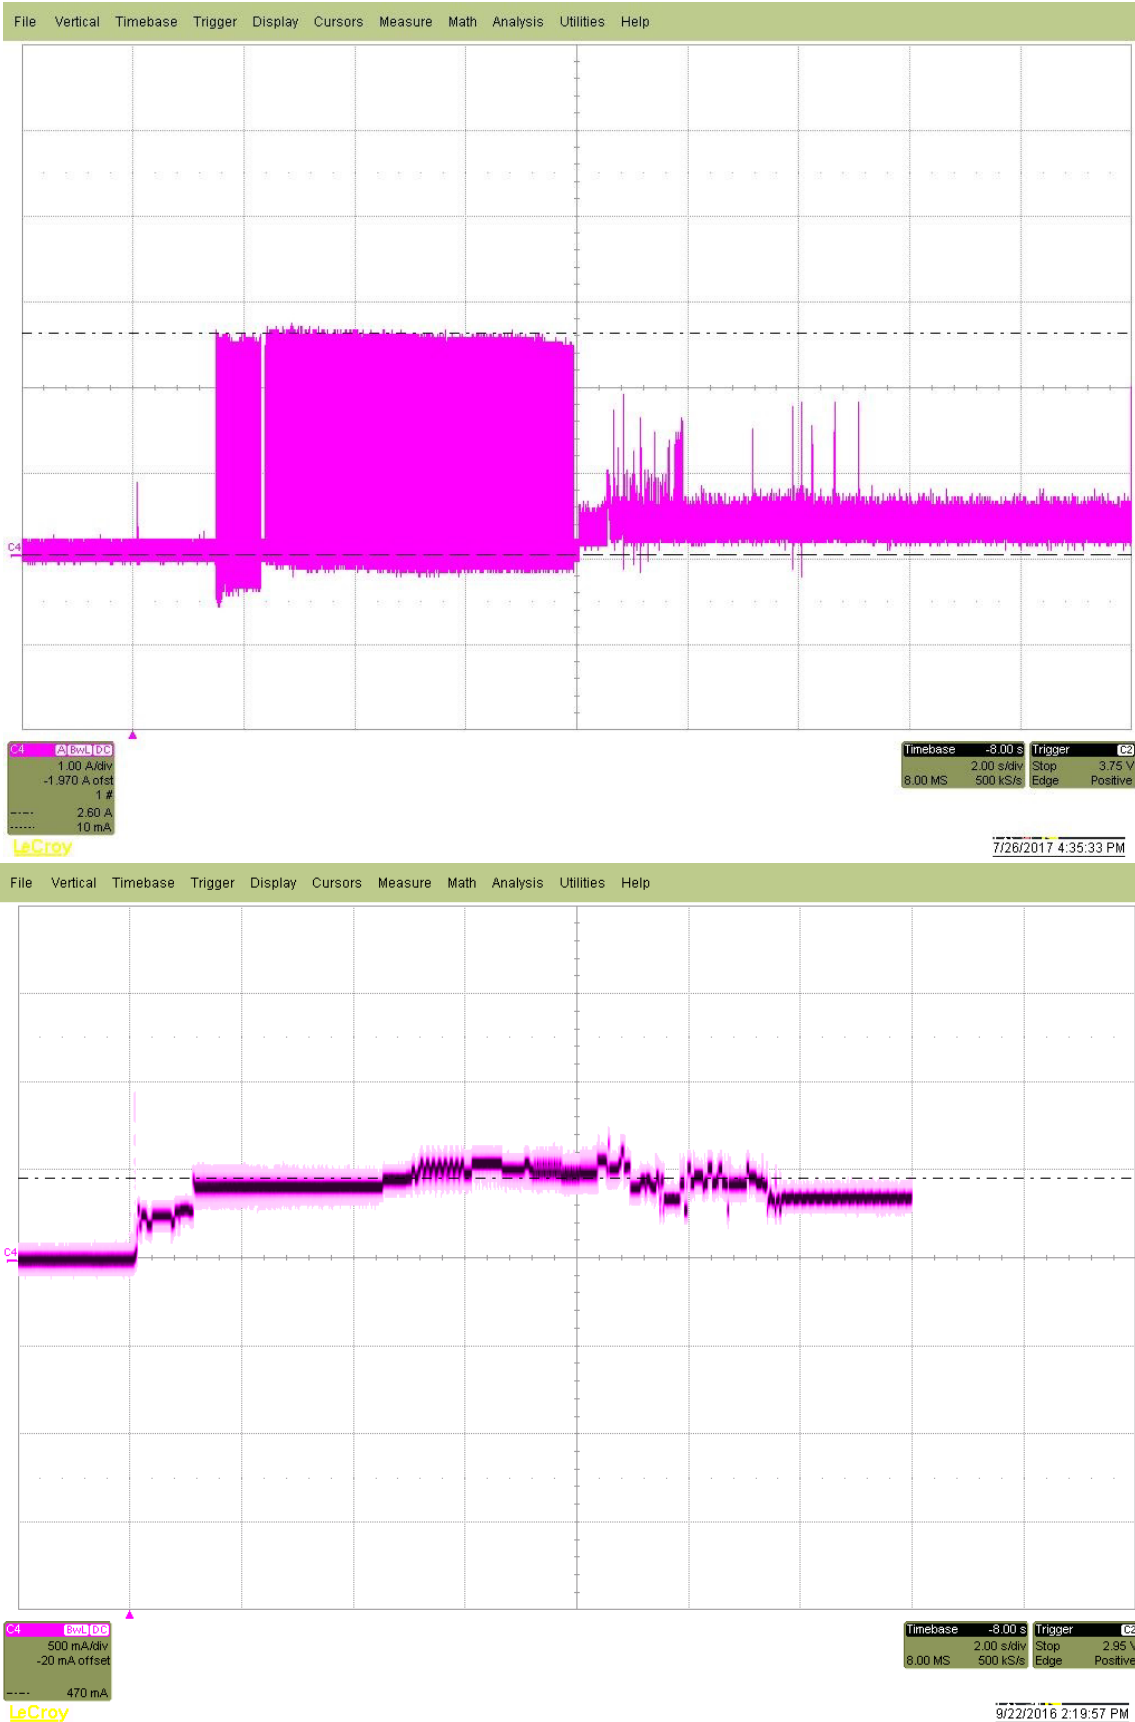

Figure 1. 12TB model current profiles.
- [3] See +12V current profile in Figure 1. (for 12TB models)